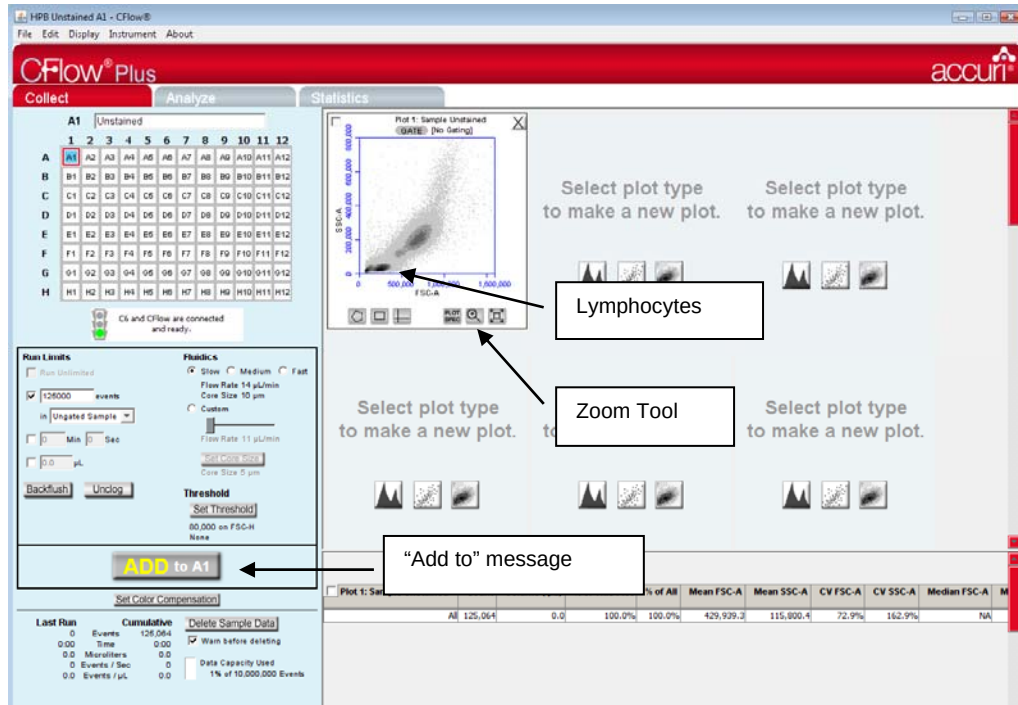

Figure 3-5 CFlow template after collection of Sample A1, human peripheral blood
13. After the run limit is reached, well A1 will stop flashing and remain blue, indicating that the well contains data. The **RUN** button will now read **ADD TO** (Figure 3-5). If desired, more data can be collected into well A1 by clicking on the **ADD TO** button. Even after collecting samples in other wells, any well containing data can be returned to, and more events collected, at a later time.